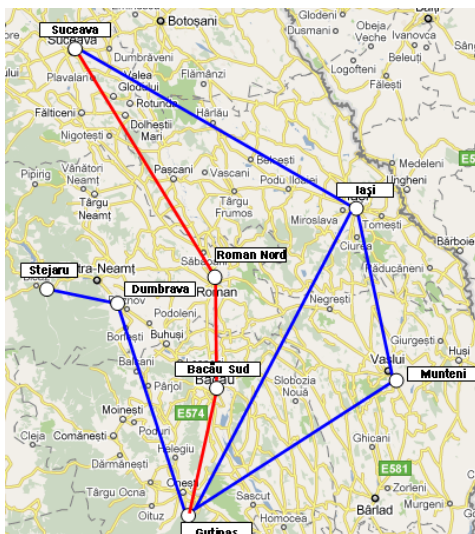
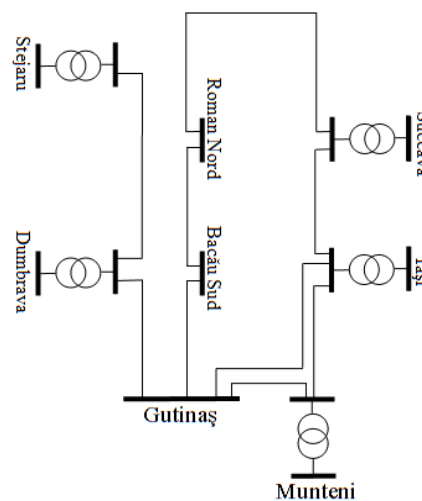

Fig. 1 - An one line diagram - geographical view
Fig. 2 - A drawn one-line diagram
Because voltage in an electrical system or network varies with the load, it is very important for a system operator to keep under control this variation at all times and take the appropriate measures of correcting any unwanted deviation when it occurs. Such a system diagnostic can be obtained via a load flow calculation. The load flow analysis of an electrical system such as the Moldova section of the Romanian HV transmission system, depicted in Fig. 1 and Fig. 2, is, in a nutshell, the computation of all bus voltages, using
- a view on the geographical map of Romania, not taking into account the real line paths (Fig. 1)
Electrical systems are simulated in DIGSI-PF using projects stored in the program's database. New projects are created by users by clicking on the **New** item from the **File** menu, then choosing the **Project...** option. (Fig. 2).